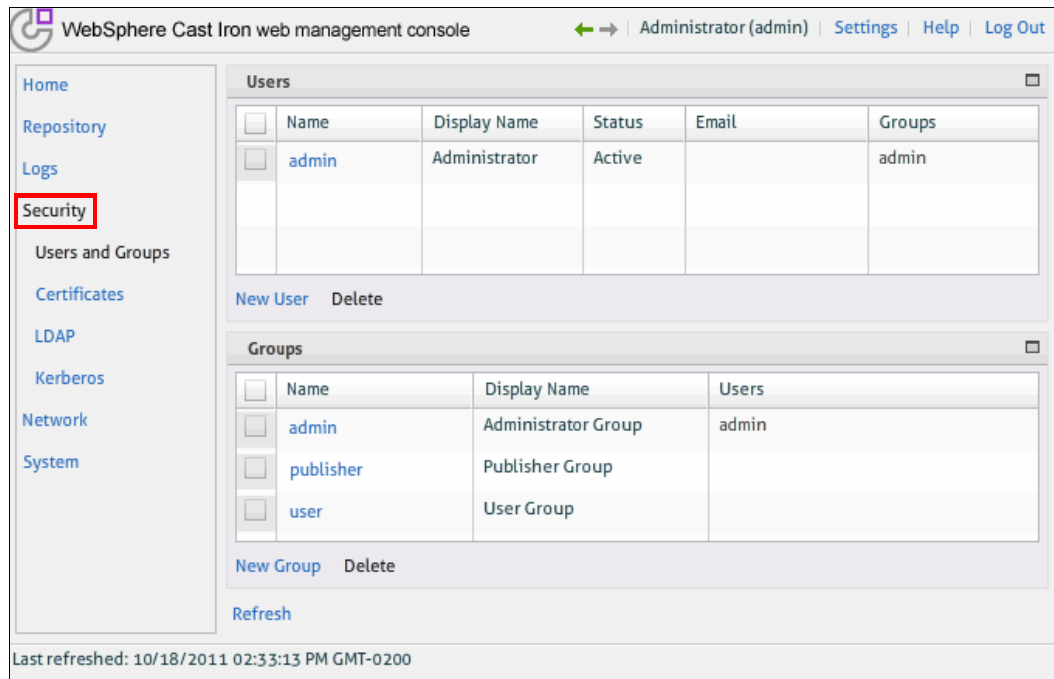

Figure 5-3 Users and Groups section
1. In the WMC, click **Security** to open the pane shown in Figure 5-3 on page 234. By default, the Users and Groups section opens.